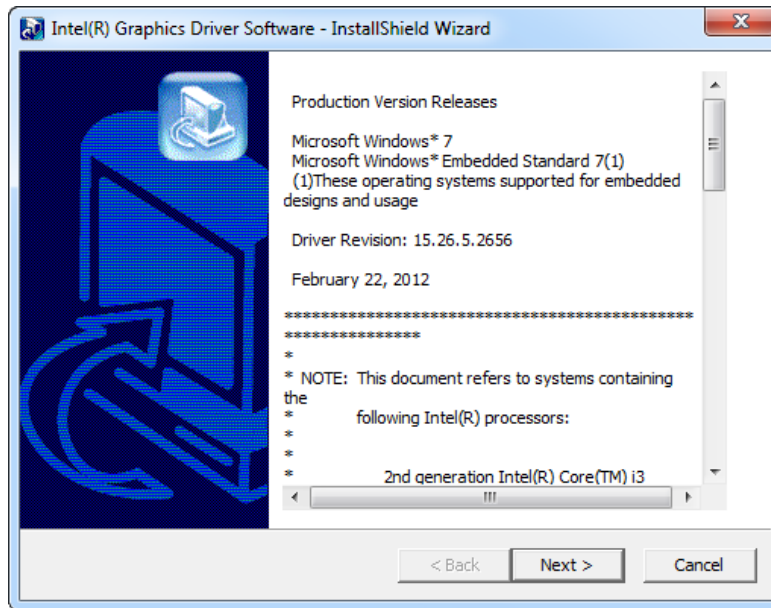

Figure 8-8: Graphics Driver Read Me File
- Step 4:** The **Read Me** file in **Figure 8-8** appears.